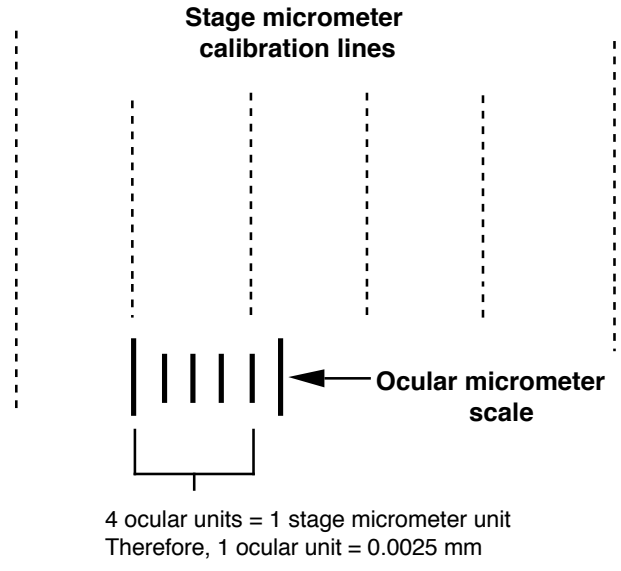

Figure 5. The ocular micrometer scale superimposed over the stage micrometer scale.
2. By rotating the ocular lens containing the ocular micrometer and moving the stage micrometer with the mechanical stage, superimpose the scale of the ocular micrometer over that of the stage micrometer (see Figure 5).